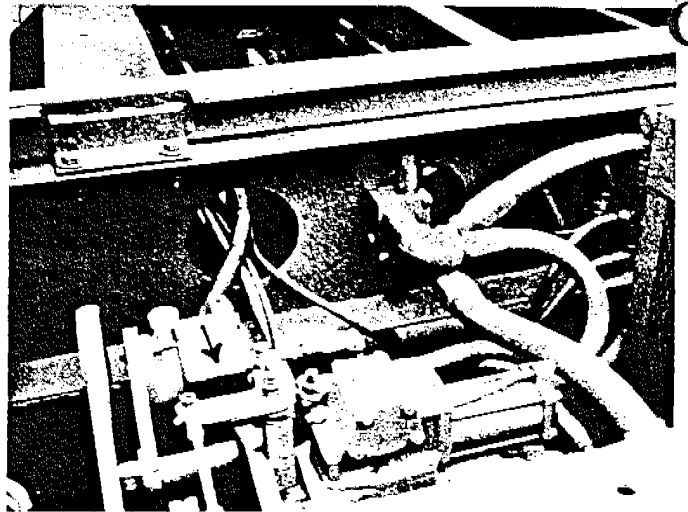

Fig. 21
- Connect the electrical supply and start the drive motor. CAUTION: Be sure the direction of the pump is correct. (Fig. 21)